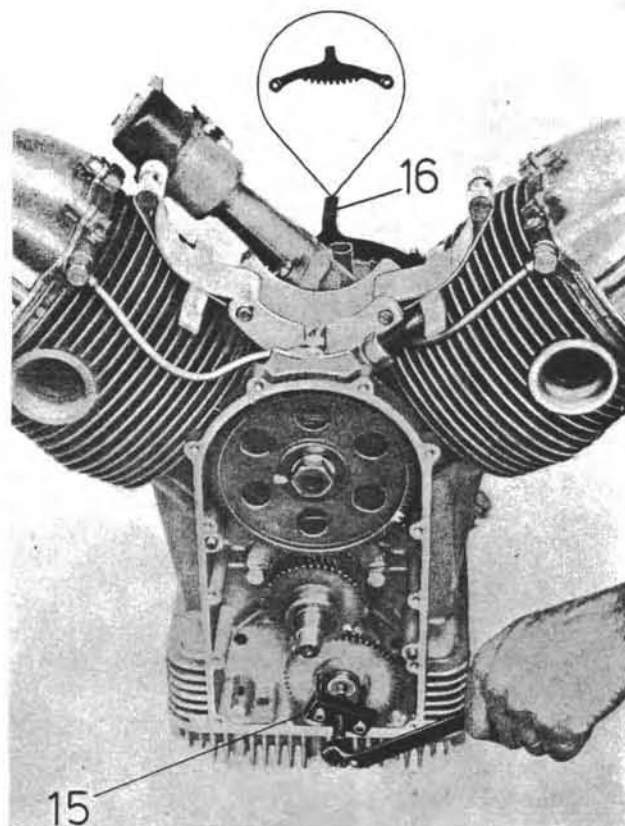

Fig. 10
- oil pump gear, by means of tool No. 12911801 (see 16 on Fig. 10) and oil pump gear puller No. 32906302 (see 15 on Fig. 10).